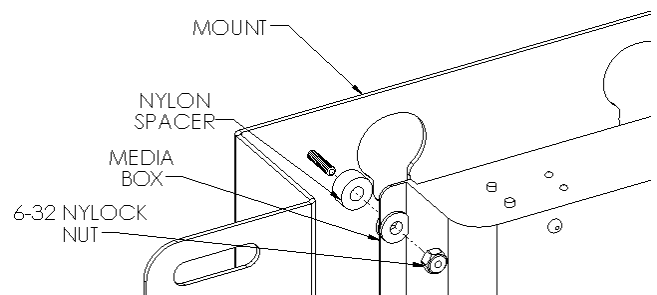

Figure 3
3. Attach media box to mount using the .25" nylon spacers and 6-32 Nylock nuts (see Figure 3).